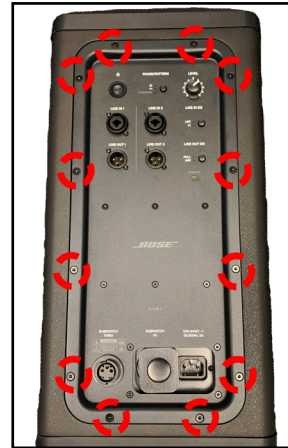

Figure 4. I/O Panel Screws Removal
1.1 Remove the 12 screws securing the I/O Panel Assy as indicated in Figure 4.